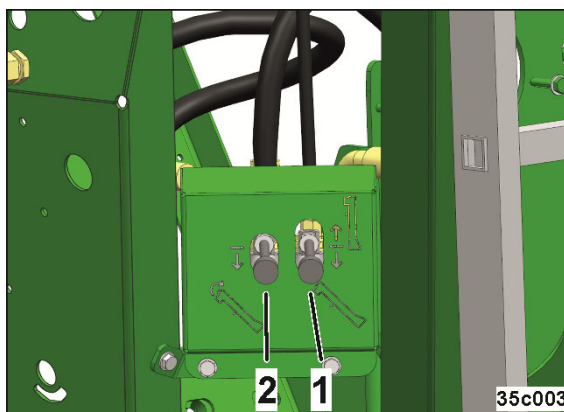

Fig. 248
4. Actuate the auger unfolding (Fig. 248/1)
5. Fill the hopper (Fig. 248/2)